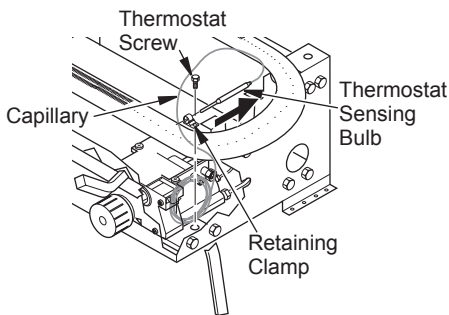

Figure 28 - Removing Thermostat Sensing Bulb
2. With 1/4" hex driver or socket, loosen thermostat screw. Carefully slide thermostat sensing bulb out of retaining clamp (see Figure 28).